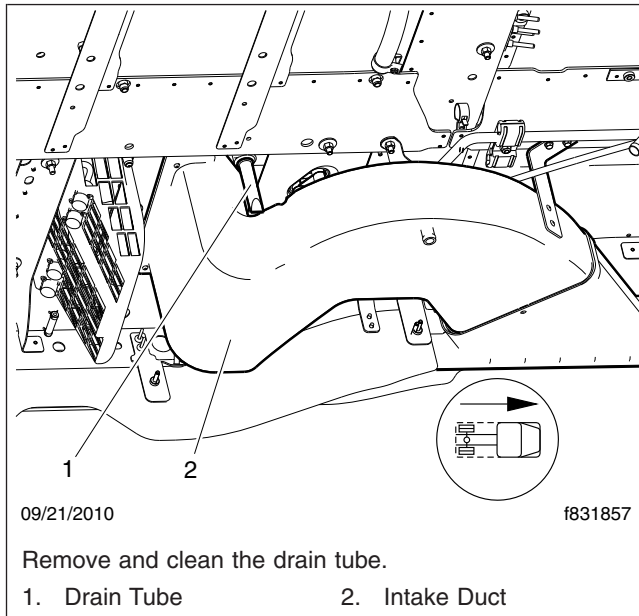
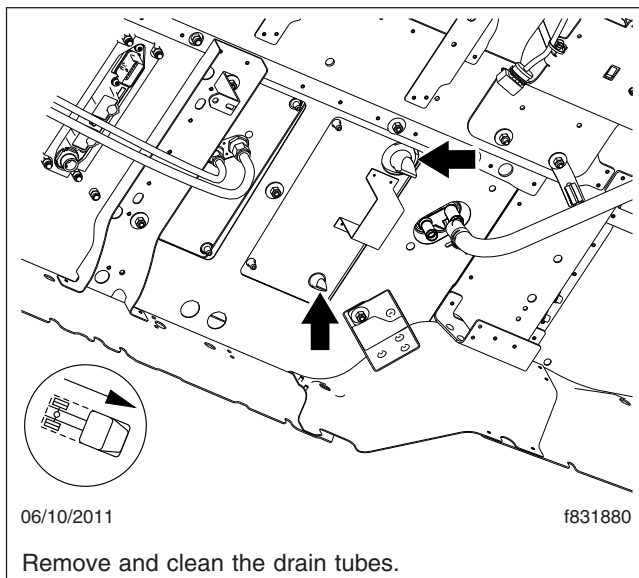

Fig. 13, Drain Tube Inspection (pre-July 2011)
Fig. 14, Drain Tube Inspection (from July 2011)
2. Remove the drain tube(s) from the bottom of the unit. See Fig. 13 for systems manufactured before July 2011, or Fig. 14 for systems manufactured from July 2011.